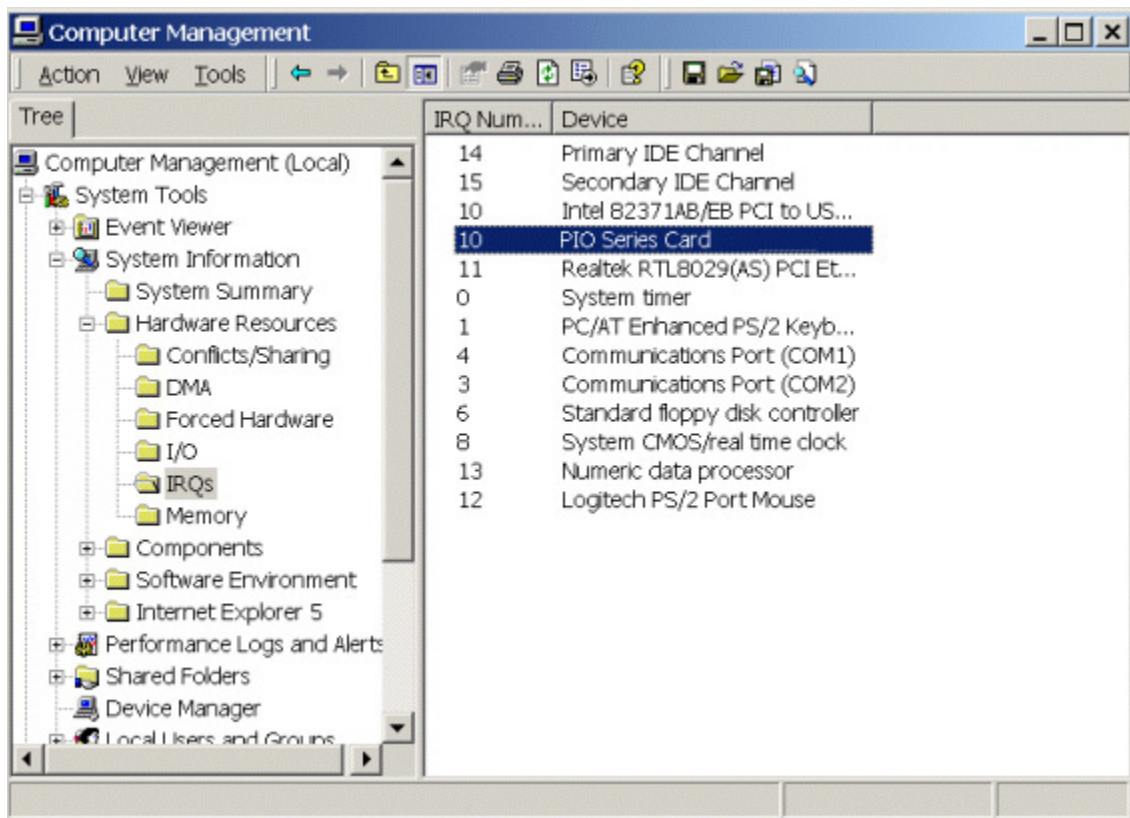

Figure 4-2. The “IRQs” resources under “Computer Management”.
- “**Computer Management**” will popup, refer to figure 4-2.